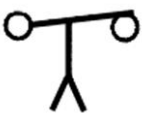

Figure 7-18 Timed contact for question 6.
6. For the timer relay contact shown in Figure 7-18, when the relay coil is energized, there is a time delay before the contact opens. (True or False) 6. _____